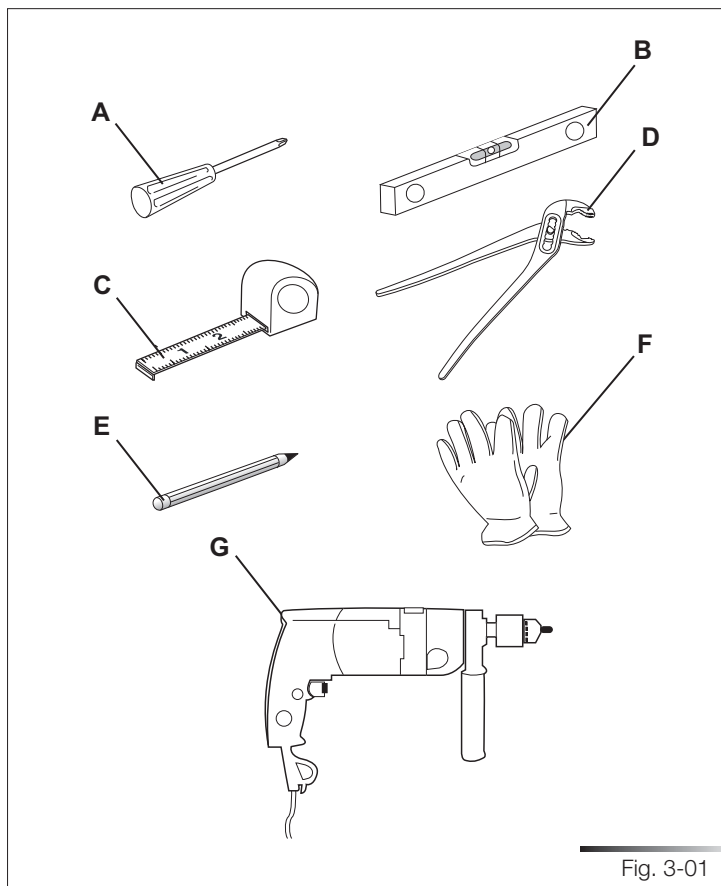

Fig. 3-01
- destornillador de cruz (ref. A fig. 3-01);
- nivel (ref. B fig. 3-01);
- metro (ref. C fig. 3-01);
- pinza (ref. D fig. 3-01);
- lápiz (ref. E fig. 3-01);
- guantes de seguridad (ref. F fig. 3-01);
- taladro (ref. G fig. 3-01).